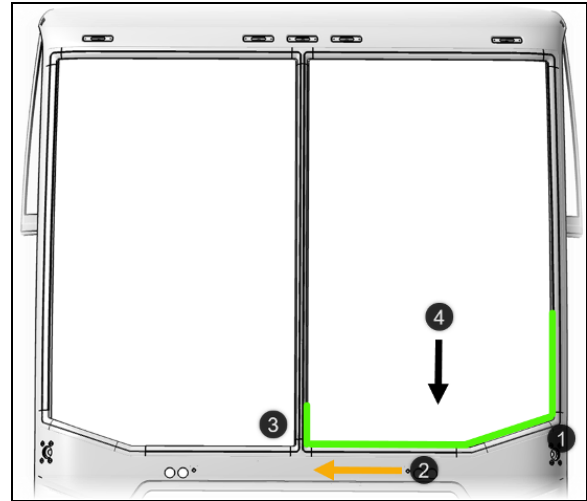

FIGURE 66
2. Slide windshield into rubber extrusion groove starting at the bottom Figure 66. Using a plastic spatula, move the rubber extrusion lip aside to gradually insert the windshield into the groove.